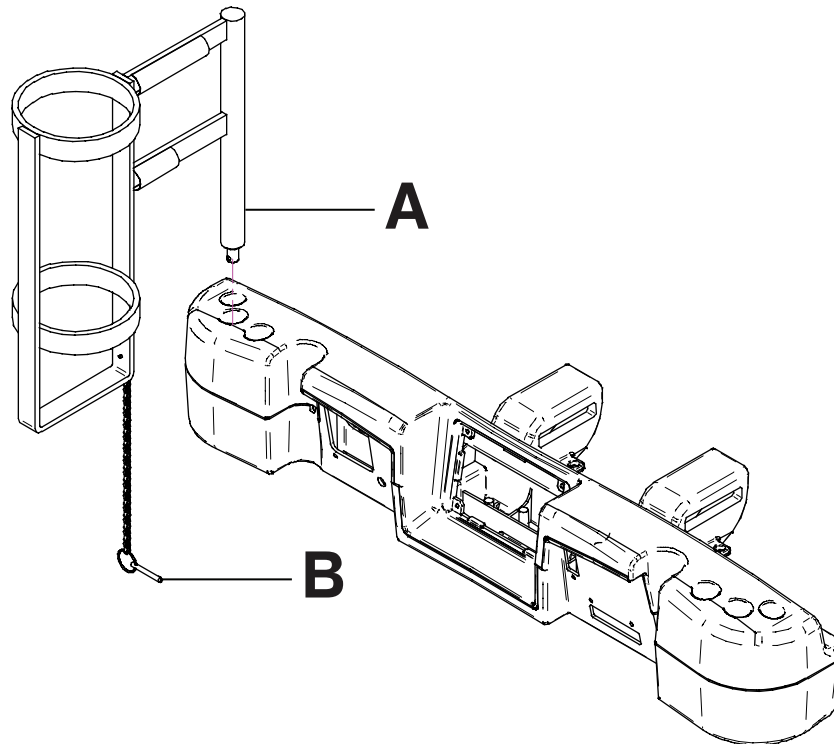

Figure 132: Upright oxygen bottle holder
1. Insert the support bar into the socket at the head end or foot end of the product on either side (A) (Figure 132 on page 114).
2. Insert the security chain pin (B) through the support bar hole (Figure 132 on page 114) to secure the bottle holder to the product.